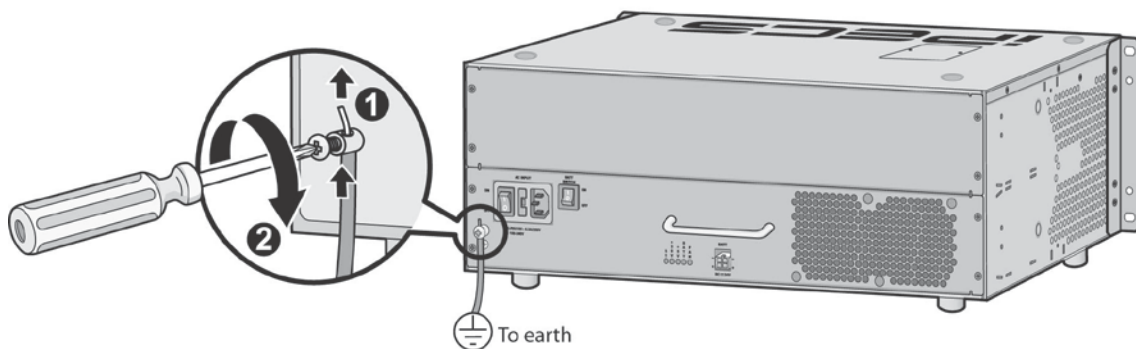

Figure 4.6.1-1 Grounding the KSU
2. Loosen the Ground lug screw by turning the screw counter-clockwise to loosen, as shown in Figure 4.6.1-1.